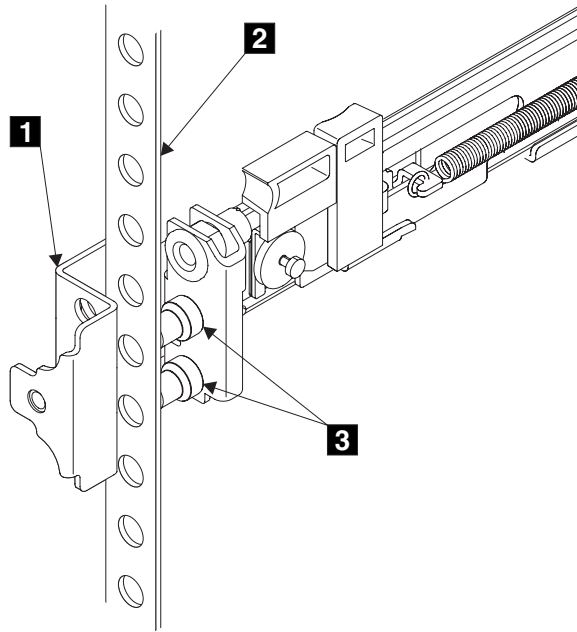

Figure 36. Installing the front end of the rail
6. Place the front end of the left rail in the rack cabinet. Align the top of the front bracket **1** (Figure 36 on page 63) with the required EIA marking that is on the rack.